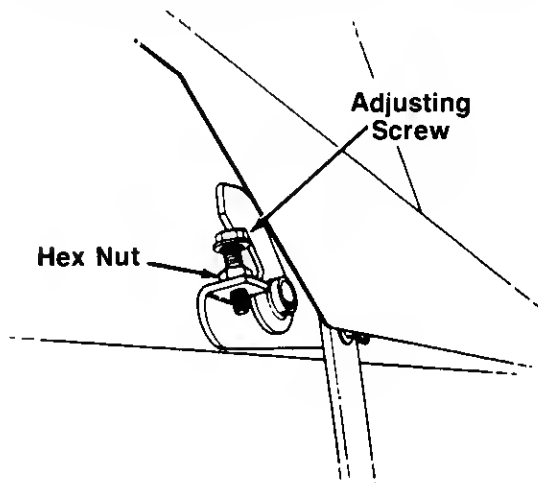

FIGURE 24B.—Model 13518
3. If adjustment is needed, loosen the hex nut on the adjusting screw, located under the right side of the frame. See figure 24B. Move the adjusting screw inward to lower the right side of the deck, or outward to raise the right side of the deck.